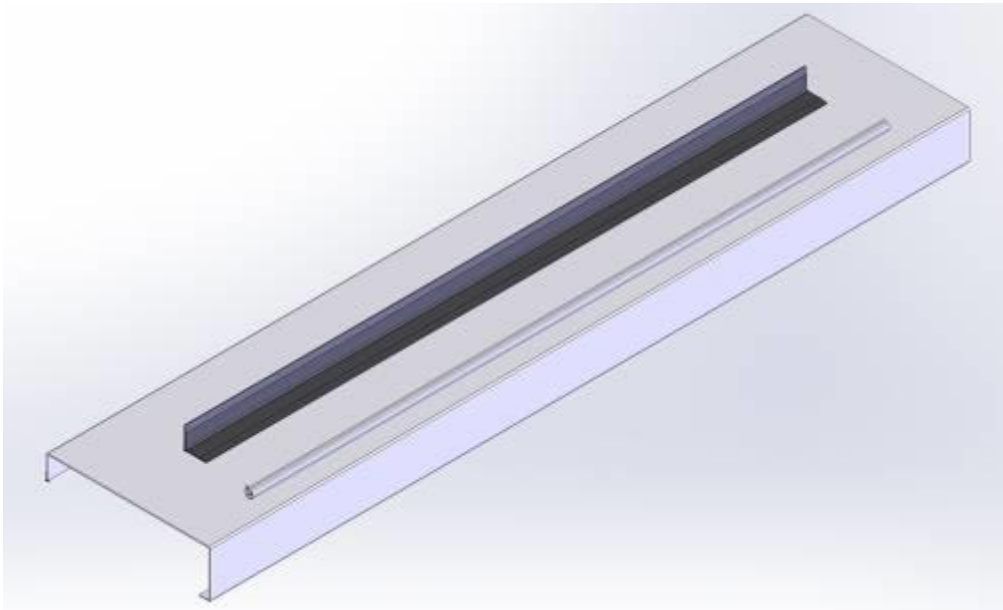

Fig. 2
4. Bolt Rubber wind deflector to the cap just ahead of where the tarp will lay on the cap. This will help keep wind from getting under tarp – see fig. 2.
3. The next mark will be the vertical center mark. It will need to be offset from the center of the trailer by 3" towards the lock down side. Refer to figure 2 for clarification.